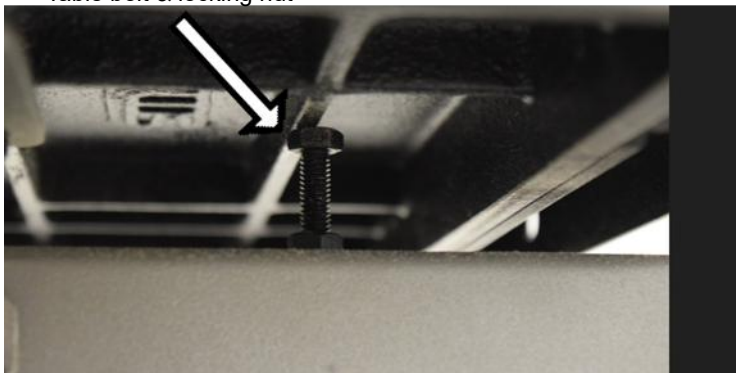

Fig. 40
8. Retighten the table rest locking nut, ensuring the 90° table angle setting is maintained (Fig.40).